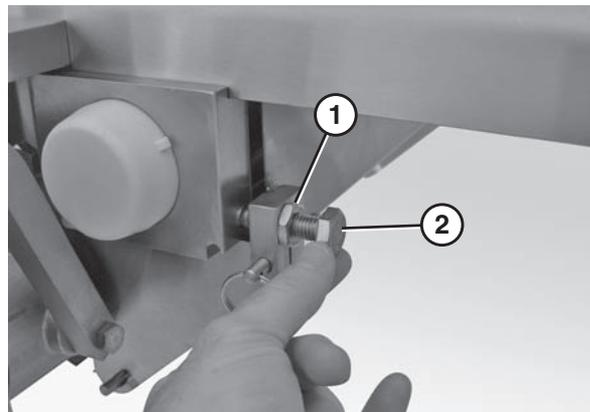

Figure 53
1. Loosen the guide plate nuts (**Figure 53, item 1**) on the infeed side of the center drive assembly.
2. Tighten the guide plate bolt (**Figure 53, item 2**) to move the belt away from that side of the conveyor.